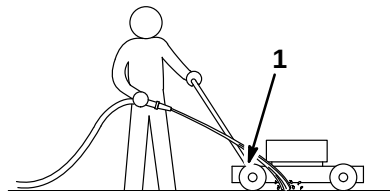

Figure 32
3. Hold the running garden hose at handle level and direct the water to flow on the ground just in front of the right rear tire (Fig. 32).